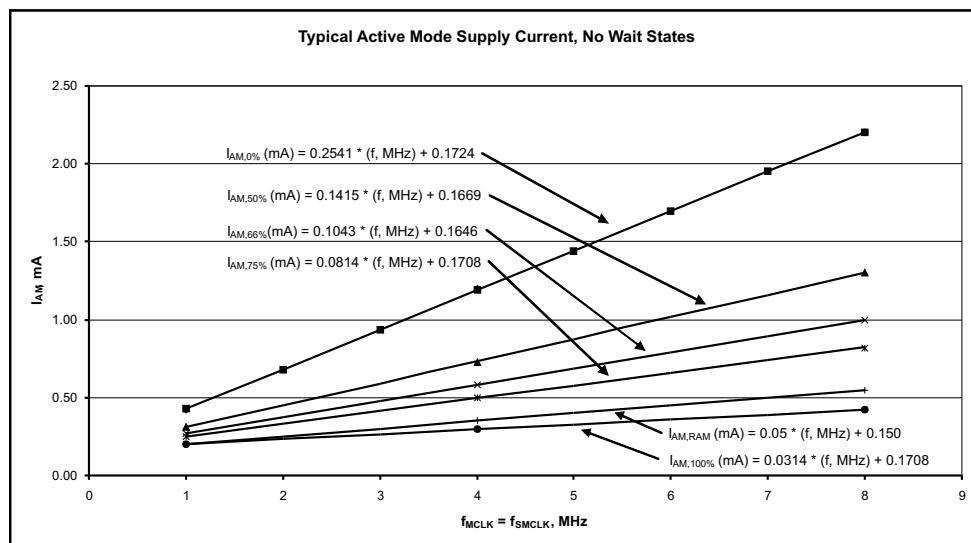

Figure 4-1. Typical Active Mode Supply Currents, No Wait States
- (7) See Figure 4-1 for typical curves. Each characteristic equation shown in the graph is computed using the least squares method for best linear fit using the typical data shown in Section 4.4.
- (8) All execution is from RAM.